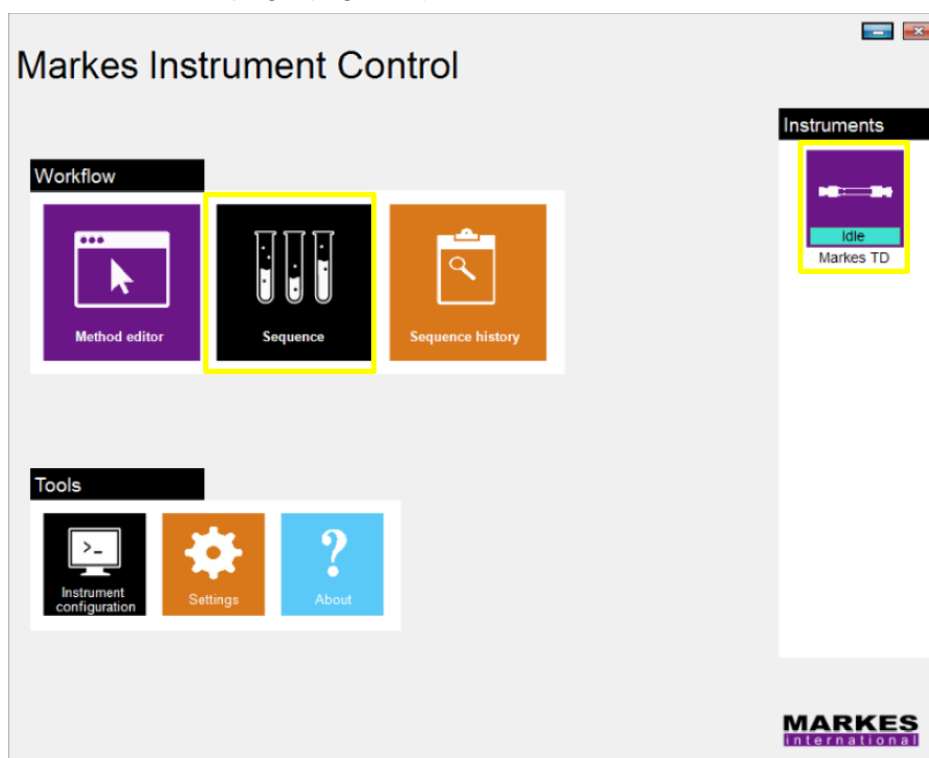
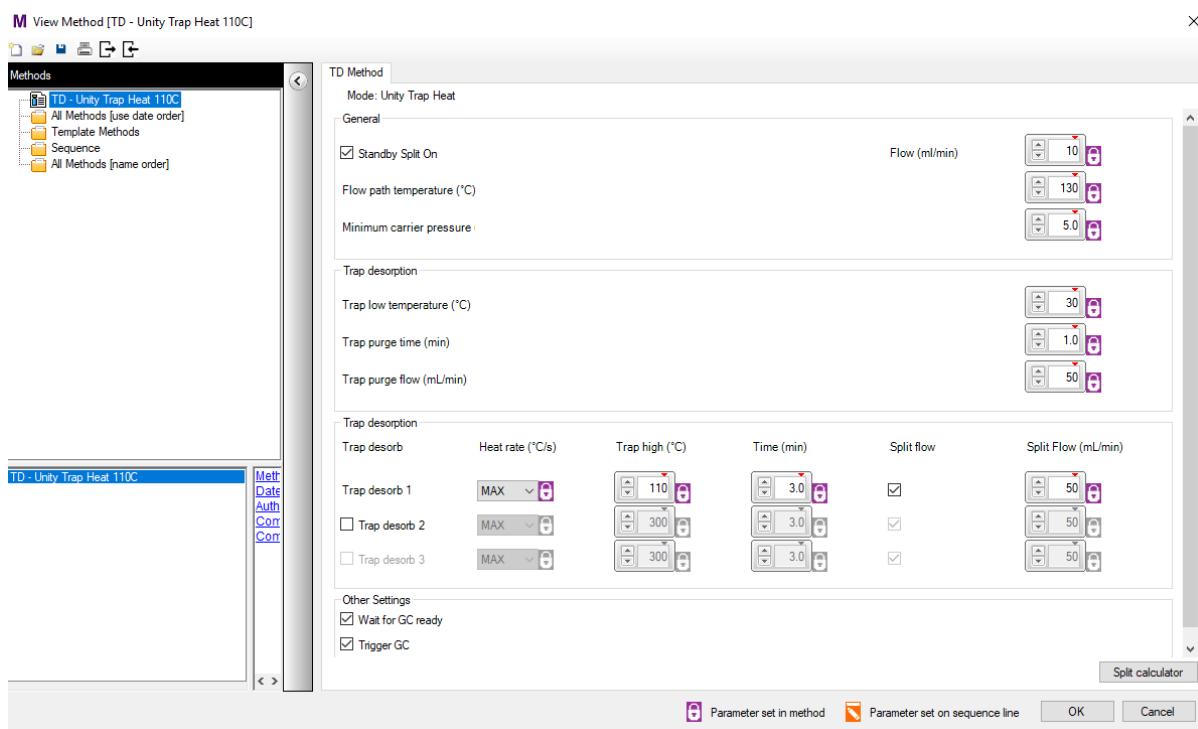

Figure 1. MIC homepage.
Figure 3. Cold Trap Blank - UNITY-xr method.
- 3.2.1 Open the MIC. Wait until the instrument status is "Idle" and select the "Sequence" option from the software homepage (Figure 1).
3.2.3 If the method is not available or cannot be found, it is possible to create it from a template by using the “Method Editor” (purple button in Figure 1) and entering the parameters shown in Figure 3